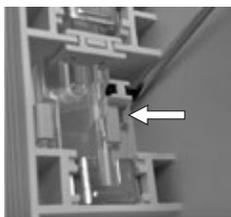

Figure 26
- In order to lock move locking elements according to direction of the arrow until they get the moment of skipping in the guidance of the cover (Figures 26, 27);